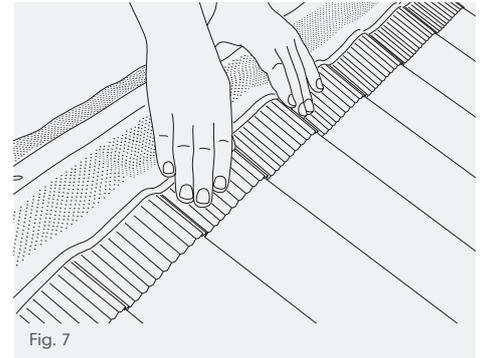

Fig. 7
- 6 Firmly press corrugations onto tiles on both sides along length of the ridge. With profiled tiles, it is best to adhere butyl to the top of profile either side of tile pan first, to ensure an even spread of corrugated strip across roof (Fig. 7).